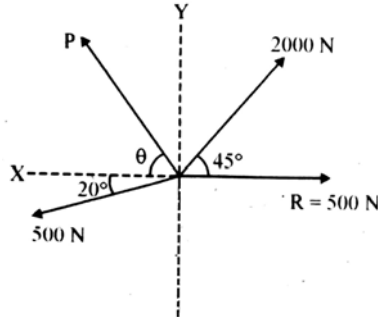

Fig. No. 1
- a) The resultant of a system of forces as shown in Fig. No.1 is 500 N and acts along X-axis towards the right. Calculate analytically magnitude of unknown force P and its inclination with X-axis.